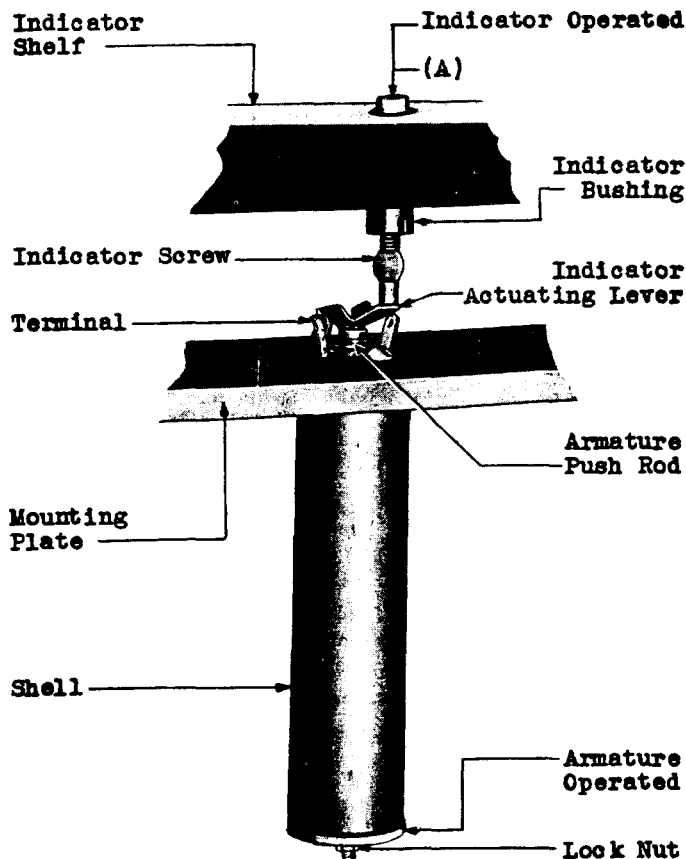

Fig. 2 - General View of Signal and Indicator in Operated Position
(b) Fig. 2 (A) With the associated signal operated electrically on the specified operating current, the indicator shall project above the face of the indicator shelf Min. 3/32" Gauge by eye.